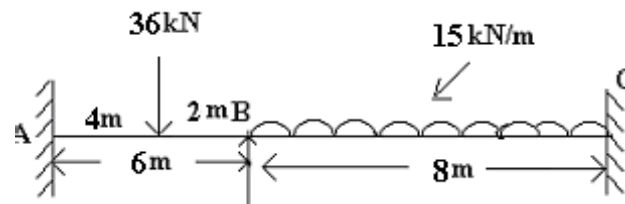

Figure 3:
6. Using moment distribution method analyse the two span continuous beam loaded as shown in Figure 3 if the moment of inertia of AB = I while that of BC = Z I. The ends A and C are simply- supported. Sketch the B.M. and S.F. diagram. [16]